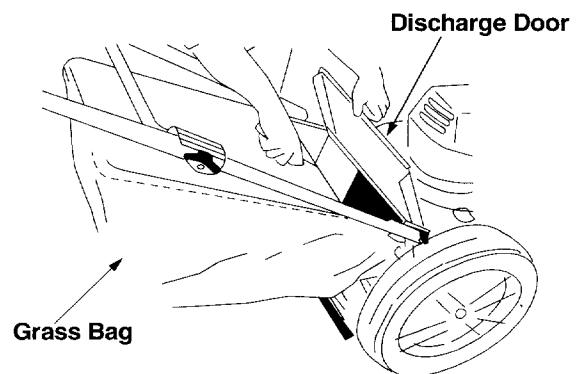

Figure 7
- Place the hooks, found on both sides of the grass catcher frame, over the chute door pivot rod at the rear of the mower. See Figure 7. Release the rear discharge door.
- **To remove the grass catcher,** lift the rear discharge door on the mower. Lift the grass catcher up and off the pivot rod. Reinstall the mulching baffle and release the rear discharge door. See Figure 7.